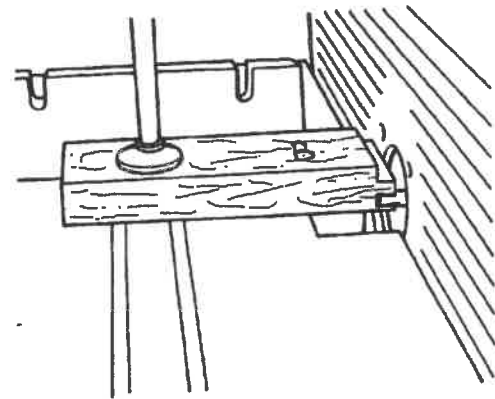

Fig. D-17
14. Turn on the Dust Collector and router. Make the cut. Turn off the router and Dust Collector. If any material remains below the second cut, lower the bit 2 or more turns and clean up the cut, then lower the bit to "0" on the scale. See Fig. D-17.